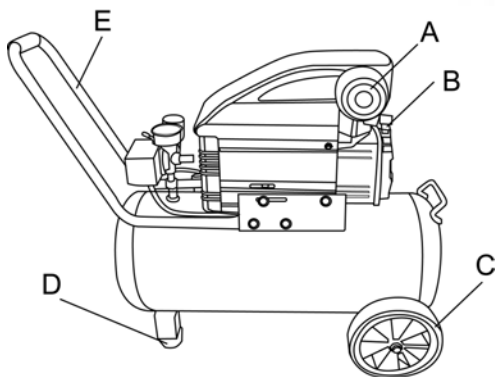

FIGURE 7
Your compressor requires some assembly. Install intake filter (A) Fig.7 to the cylinder cover. Remove plastic cap and install the oil breather cap (B) to the crankcase cover. Install both wheels (C) using the large hex. bolts, spring washers and hex. nuts supplied. Then install the 2 rubber feet (D) using the small hex. bolts, washers, spring washers and hex. nuts. Install handle (E) and the storage compartment (not shown) to the tank using hex. bolts, washers, spring washers and hex. nuts. where applicable.